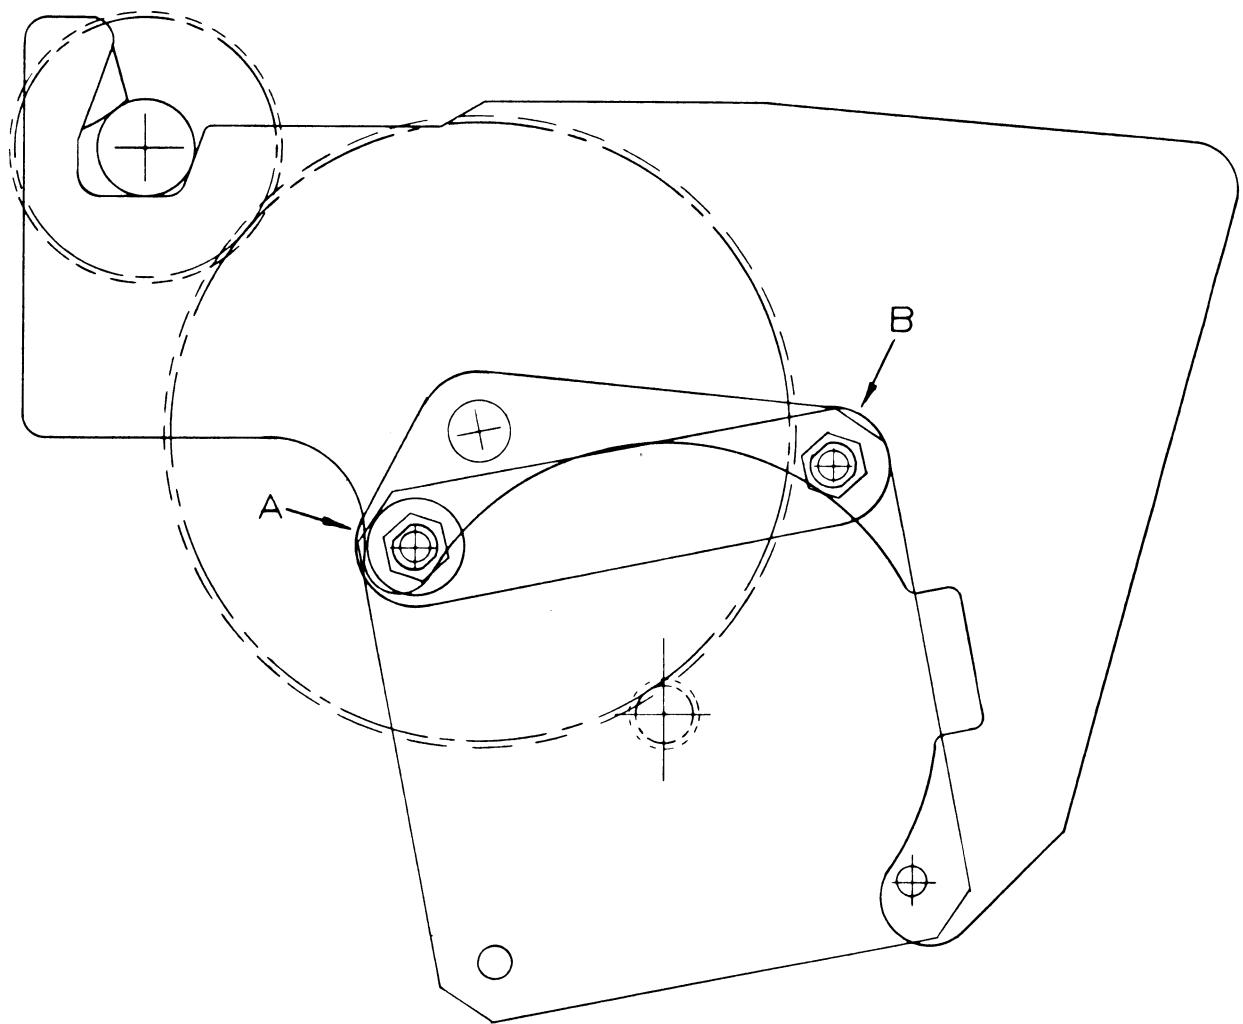

FIGURE 7-6
- (1) Refer to Figure 7-6, showing the paper feed mechanism on the right side of the printer's chassis. Locate and loosen the two $\frac{1}{4}$ " hex head screws which secure the triangular idler gear mounting plate (Figure 7-6 **(A)** and **(B)**).
- (2) Move the large idler gear simultaneously into mesh with the drive motor pinion and with the platen drive gear. Adjustment is optimal at that point where the greatest depth of penetration is achieved, short of bottoming which would cause binding of the gear train.
- (3) When this point is found, lock the idler gear in position by re-tightening the two hex head screws that were loosened in Step #1 above.
- (4) Test the adjustment by first removing power from the machine and checking the mechanism by hand for any evidence of binding. With power off, the platen should rotate freely.
- (5) Now restore power to the printer, and check for excessive backlash by rocking the platen gently against the restraining torque of the paper feed stepper motor.
- (6) If necessary, repeat Steps #1 through #3 to obtain the best adjustment. Excessive play that cannot be adjusted out of the gear train must be corrected by replacement of worn parts. Output quality is the final criterion to be considered.